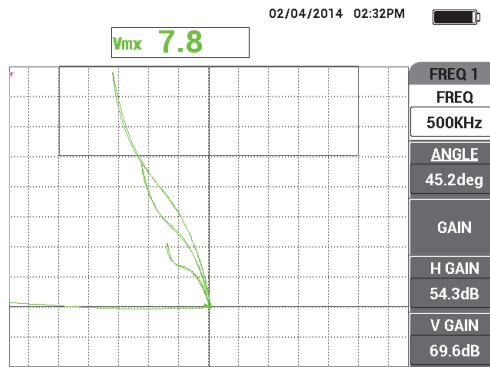

Figure 5-7 The final calibration check
9. Press the FREEZE key (❄) to unfreeze the instrument, place the probe on the standard, press the A-LIFT NULL key (⊕), and then scan the standard to perform a final calibration check (see Figure 5-7 on page 131).